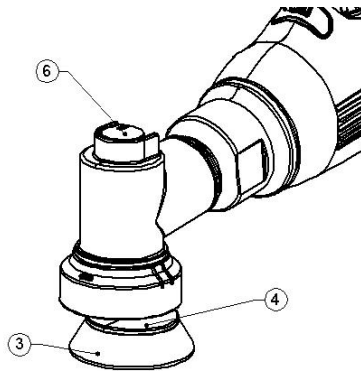

Fig.8
Assemble the buffer pad (3) (Fig. 8) on the velcro surface of the disc pad (4). Press the buffer pad to attach it to the disc pad.